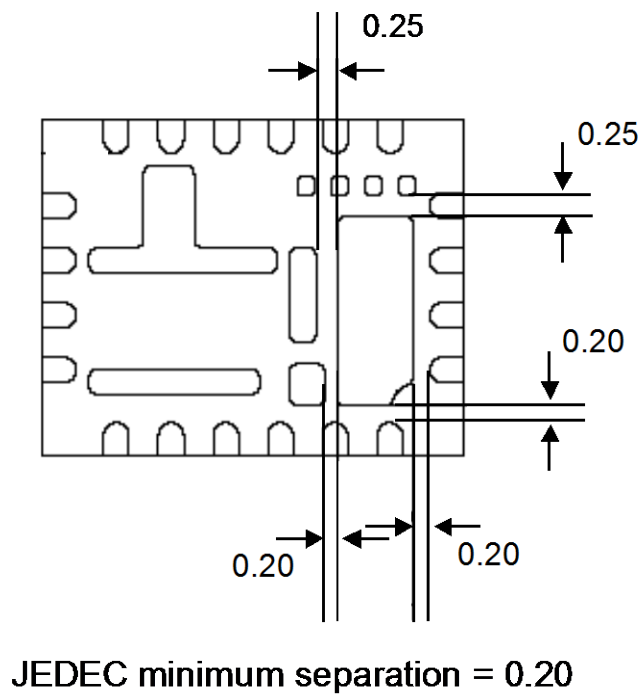

Figure 10. Exposed pad clearances; the Altera Enpirion lead frame package complies with JEDEC requirements.
**NOTE:** Clearance between the various exposed metal pads, the thermal ground pad, and the perimeter pins, meets or exceeds JEDEC requirements for lead frame package construction (JEDEC MO-220, Issue J, Date May 2005). The separation between the large thermal pad and the nearest adjacent metal pad or pin is a minimum of 0.20mm, including tolerances. This is shown in Figure 10.